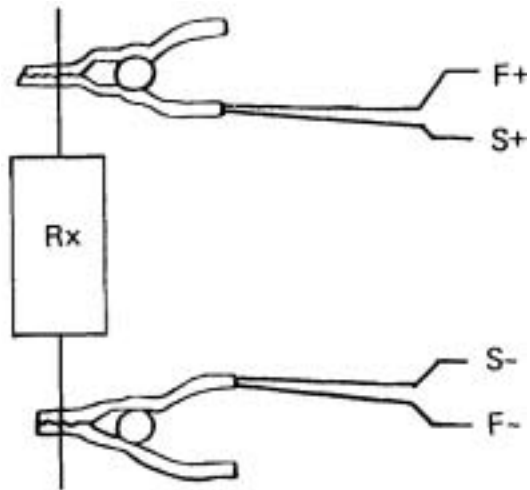

FIG. 3
1. Connect unknown resistor. To the test terminals as shown in Fig. 3